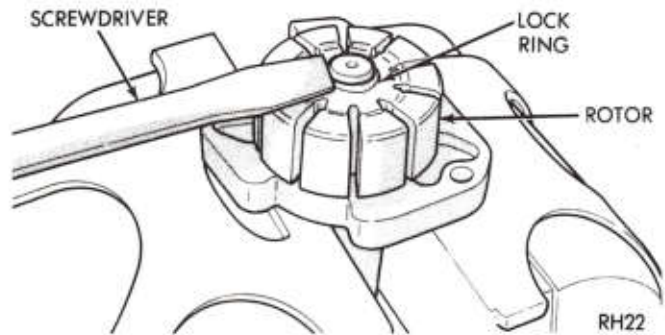

Fig. 10—Remove Full Diameter Lock Ring
(13) If necessary to disassemble flow control valve for cleaning, see "Flow Control Valve Disassembly".
(14) After lifting pressure plate and cam ring from rotor, remove ten vanes from slots in rotor.
(15) Clamp driveshaft in soft-jawed vise, with rotor and thrust plate facing up.
(16) Remove rotor lock ring, pry ring off driveshaft using a screwdriver. Exercise care to avoid nicking the rotor end face. Discard ring. (Fig. 10).
(17) Slide rotor and thrust plate off shaft and remove shaft from vise.